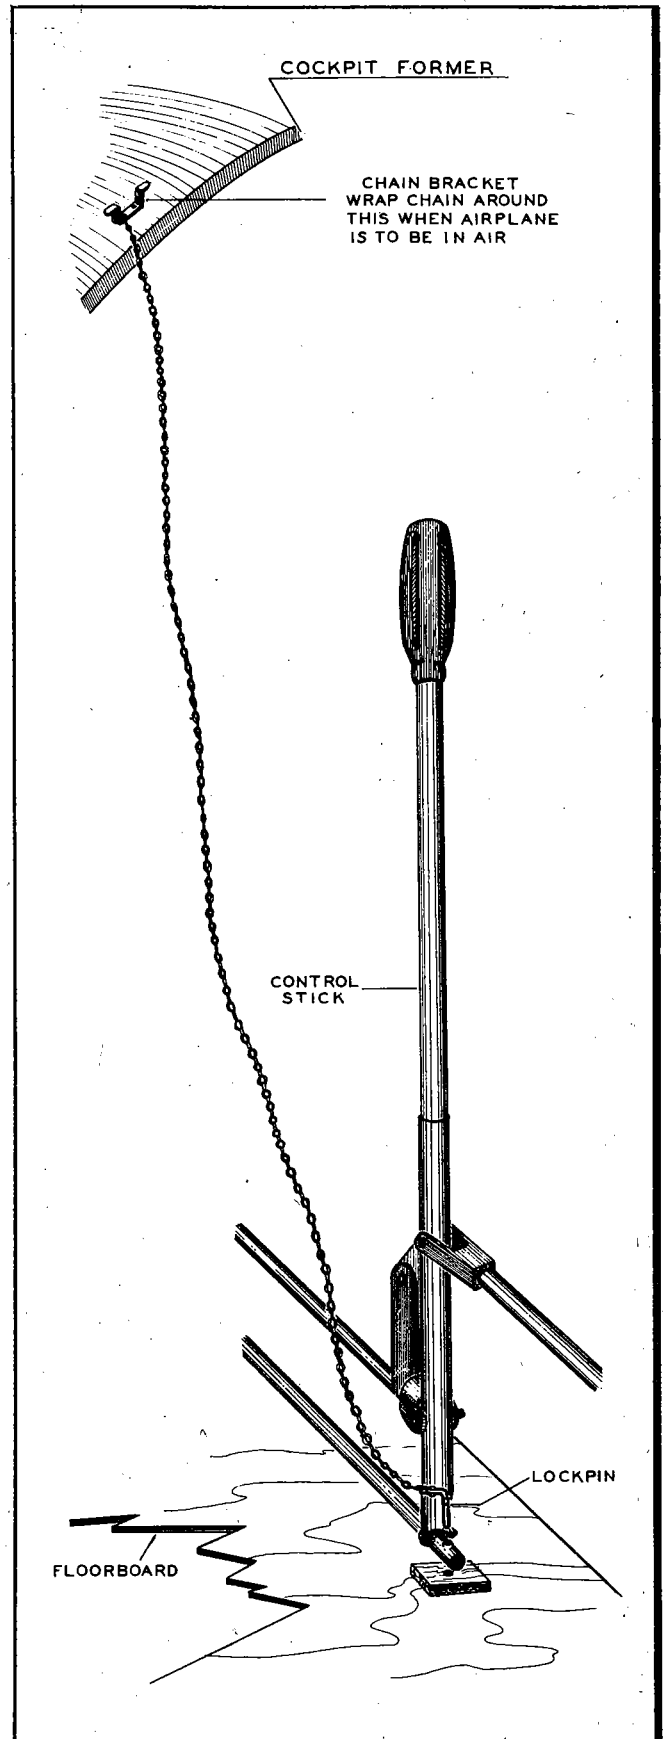

Figure 25—Control Surface Lock
f. PARKING BRAKES AND CONTROL LOCKS.— This airplane is not equipped with parking brakes. If the airplane is to be parked outside of the hangar for any reason regardless of weather conditions, the wheels should be chocked and the control stick locked by passing the pin provided for this purpose through the aileron stick link and into the floor board. (See figure 25.) See the placarded instructions in the cockpit above the instrument panel. No lock is included in the rudder system since it is connected to the nose wheel.
(1) OIL, FUEL, AND BATTERY.